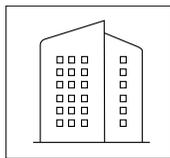

Figure 87. Organization Icon
2. On the main menu, click on the “Organization” icon. See **Figure 87**.
1. Once the proper organization is selected, click on the top right icon to visualize Devices options. See **Figure 87**.